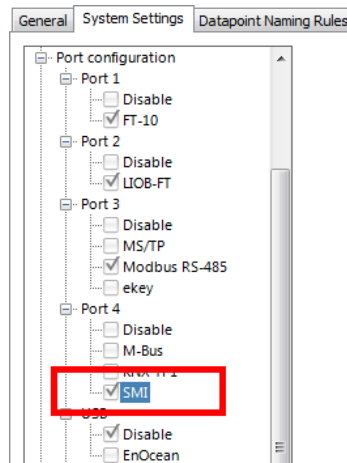

Figure 165: Enabling SMI in the Project Settings Dialog.
2. In the **System Settings** tab enable the SMI protocol on the EXT port, as shown in Figure 165. When using an LSMI-804 activate the SMI protocol on the USB port.